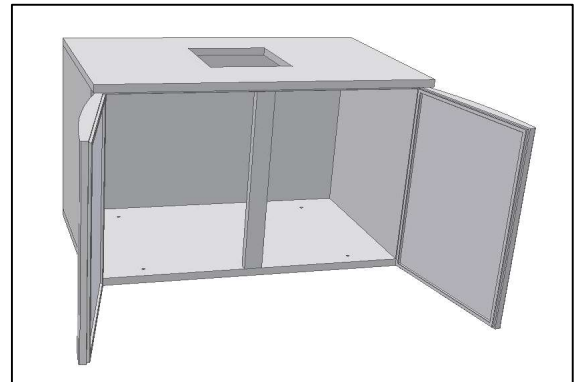

Fig. 9
- Fix the **pillar** to the top and bottom panels (Fig.9);